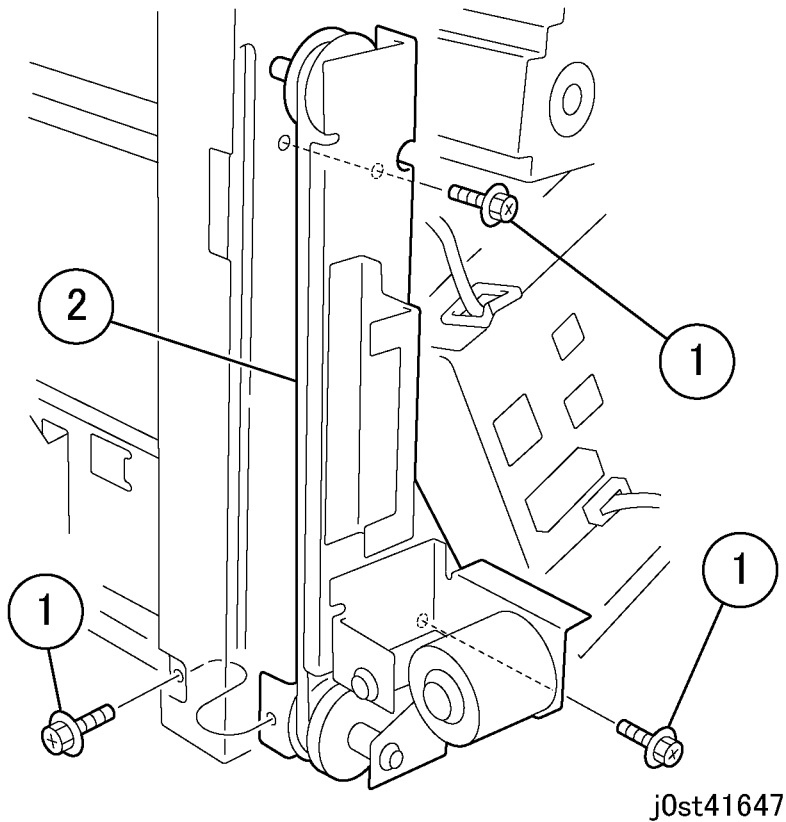

Figure 3 Removing the Elevator Belt Assembly (j0st41647)
4. Remove the Elevator Belt Assembly. (Figure 3)